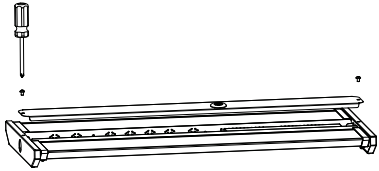

Figure 9
Step1. Open the face cover with screwdriver; (Figure 9)